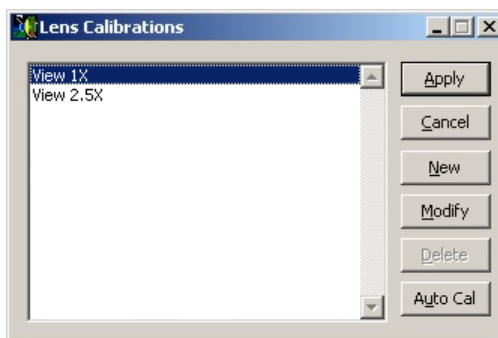

Figure 8-8 Lens Calibrations Window
4. Select **Setup / Calibration** in the VMS main menu to display the Lens Calibrations window (see Figure 8-8).
29. Select **Setup / Calibration** in the VMS main menu to display the Lens Calibrations window (see Figure 8-8 on page 130).